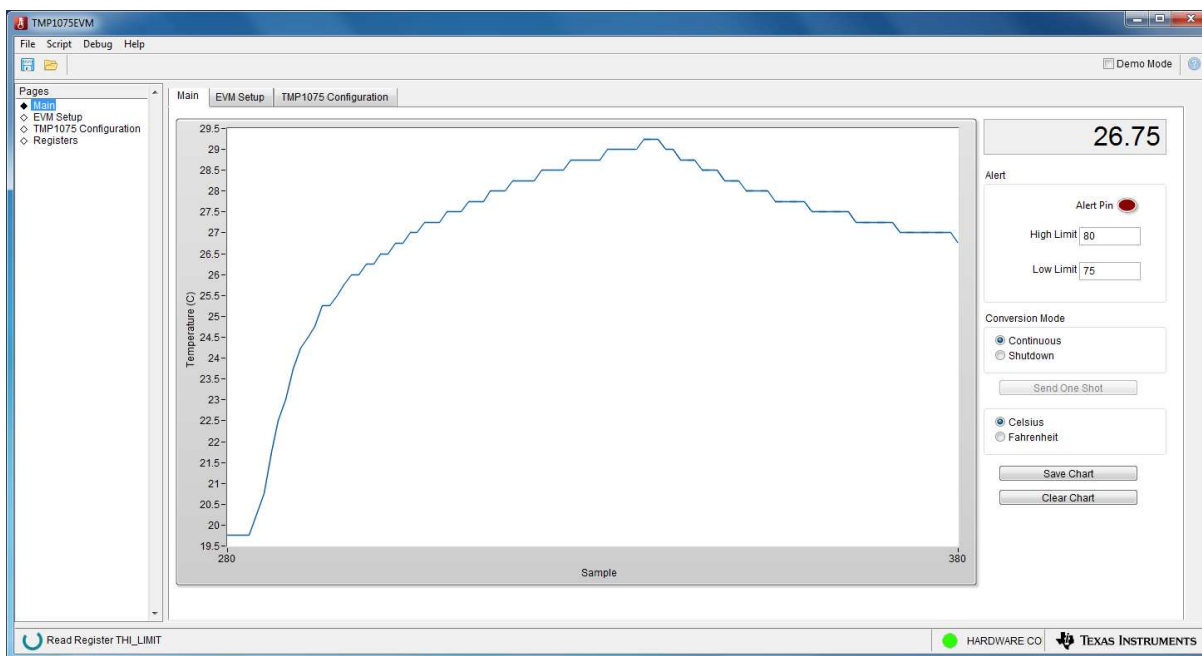

**Figure 20. Default Configuration**
1. Connect the TMP1075EVM to a USB port on a PC as shown in Figure 20.